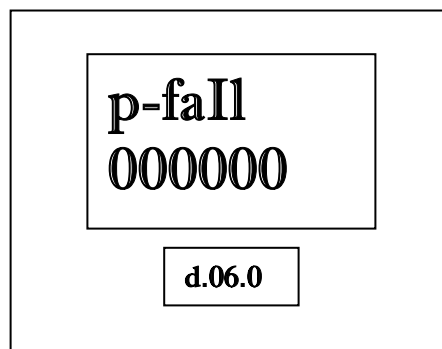

Figure 42
6.0 - Pfails. The display shown in Figure 42 appears. The PPV display shows the dispenser is in Diagnostics Level 6.0.